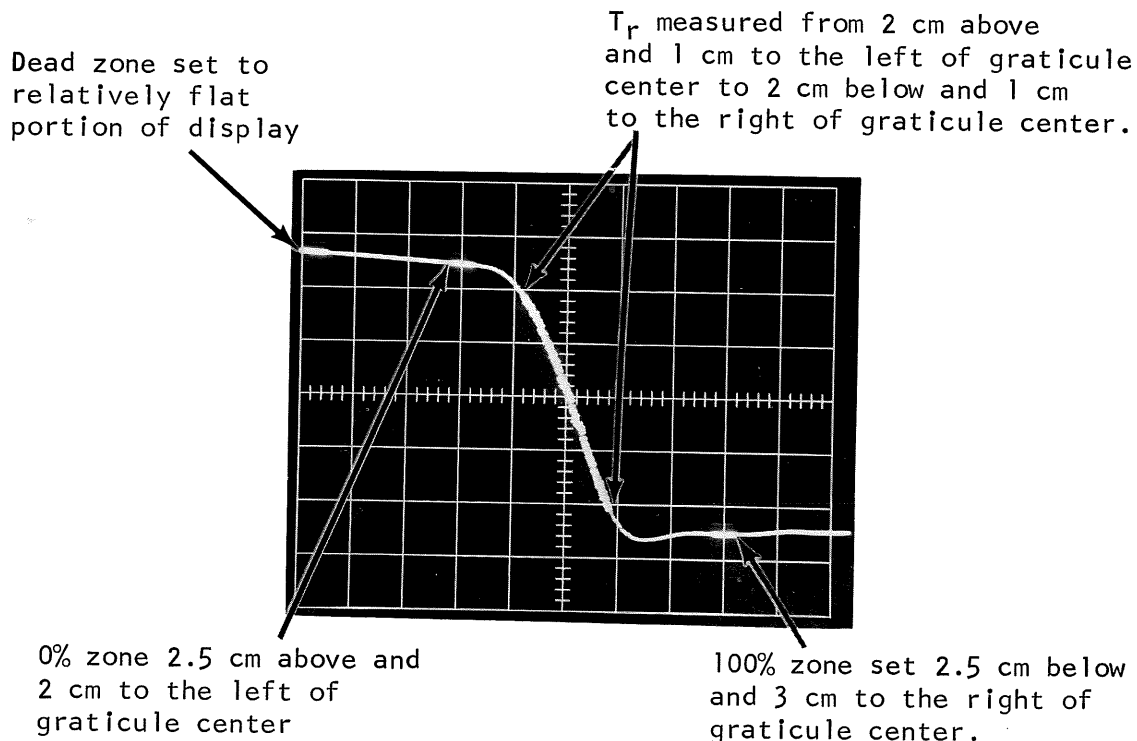

Figure 5-32
4. With the VARIABLE MV/DIV control, obtain 5 cm of deflection. Position the 0% zone 2 cm to the left and 2.5 cm above graticule center. Position the 100% zone 3 cm to the right and 2.5 cm below graticule center. Same as Step 4 part A. See Figure 5-32.